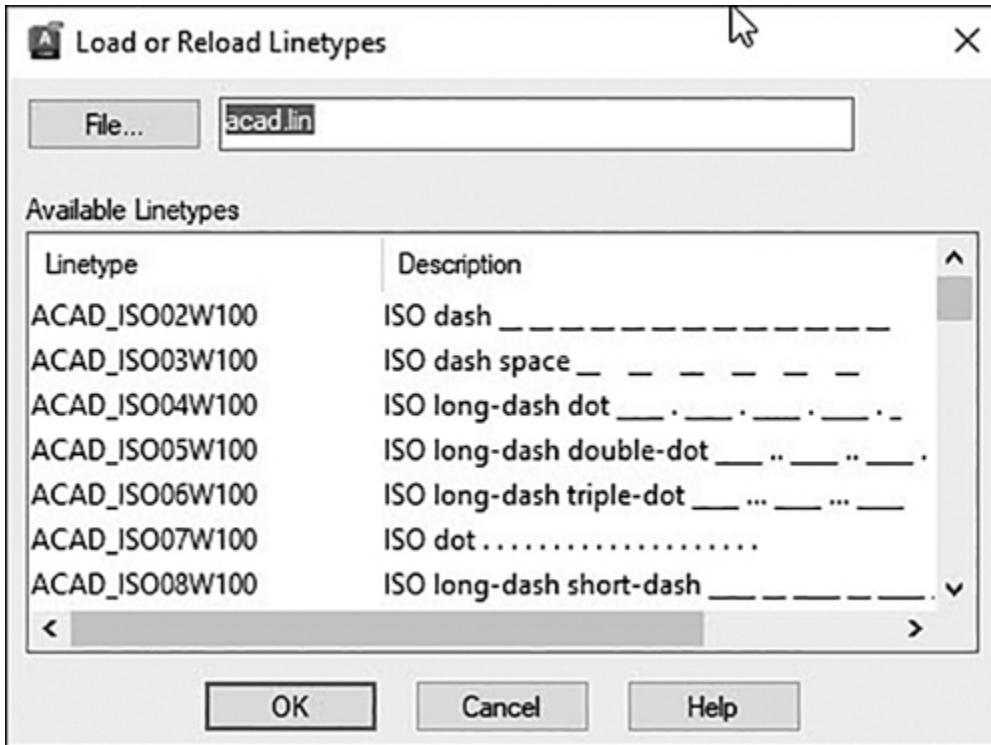

Figure 2-24
- 8 Choose the **Load...** button. This displays the **Load or Reload Linetypes** dialog box (see Figure 2-24).